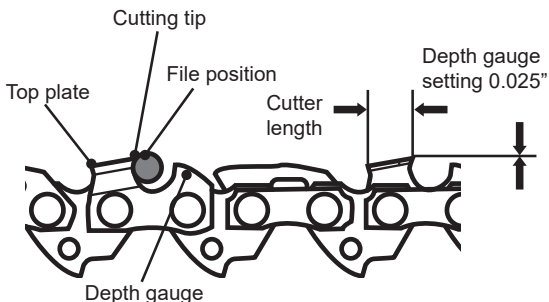

Fig. 41
9. Use a depth gauge measuring instrument to check the height of the depth gauge. Depth gauge measuring jigs are available from most reputable tool merchants (Fig. 41).